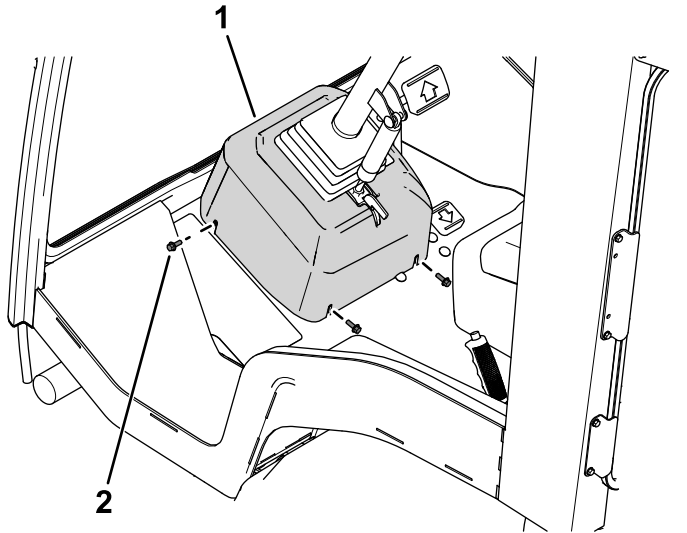

Figure 1
1. Remove the fasteners and lift the steering cover up out of the way (Figure 1).